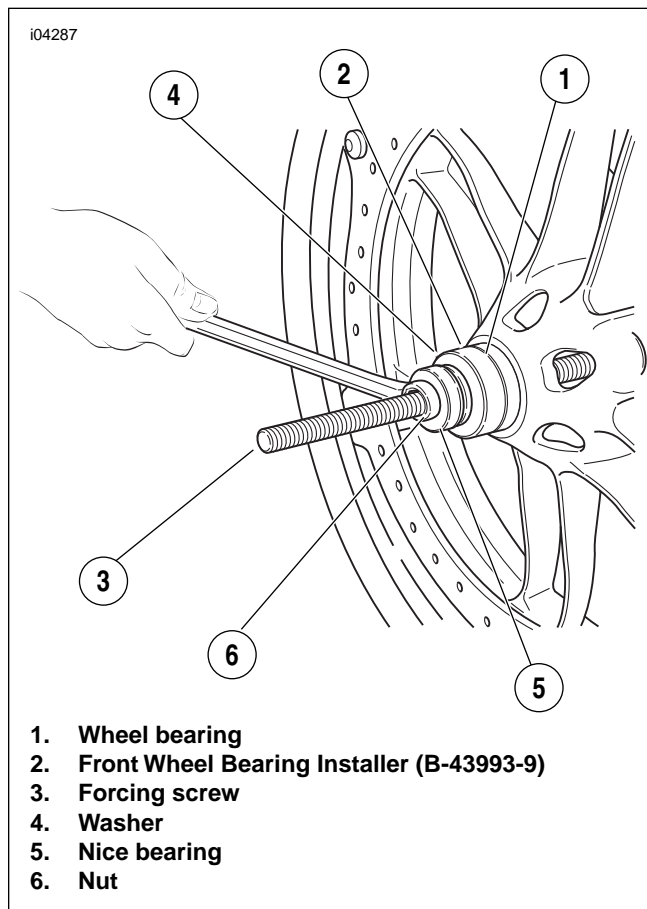

Figure 2-17. Install the Bearing
10. See Figure 2-17. Insert a **new** wheel bearing (1) squarely into the hub, with the lettered side pointing out (away from the wheel).
11. Slide the FRONT BEARING INSTALLER (Part No. B-43993-9) (2) onto the forcing screw (3), with the smaller diameter toward the bearing bore.
12. Install a washer (4), Nice bearing (5) and nut (6) onto the forcing screw (3).
13. See Figure 2-17. While holding the forcing screw (3), tighten the nut (6) until the bearing contacts the spacer.